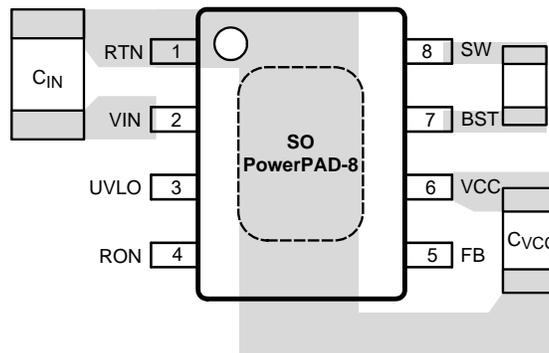

Figure 20. Placement of Bypass Capacitors
1. C_{IN} : The loop consisting of input capacitor (C_{IN}), V_{IN} pin, and RTN pin carries switching currents. Therefore the input capacitor should be placed close to the IC, directly across V_{IN} and RTN pins and the connections to these two pins should be direct to minimize the loop area. In general it is not possible to accommodate all of input capacitance near the IC. A good practice is to use a $0.1\mu\text{F}$ or $0.47\mu\text{F}$ capacitor directly across the V_{IN} and RTN pins close to the IC, and the remaining bulk capacitor as close as possible (see Figure 20 Placement of Bypass Capacitors).
2. C_{VCC} and C_{BST} : The V_{CC} and bootstrap (BST) bypass capacitors supply switching currents to the high and low side gate drivers. These two capacitors should also be placed as close to the IC as possible, and the connecting trace lengths and loop area should be minimized (See Figure 20).